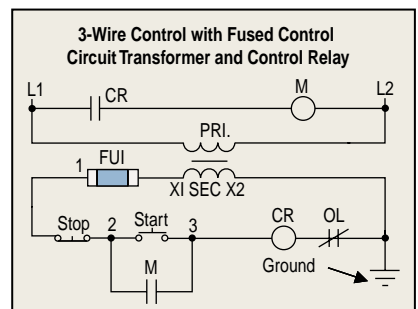

Fig. 2. A typical motor control circuit diagram (distributed control system components not shown).
To understand how voltage variations impact motor control circuits, take a look at Fig. 2. It shows a typical start/stop circuit where the start button closes the loop to allow the coil of the control relay (CR) to energize and close the CR contacts.